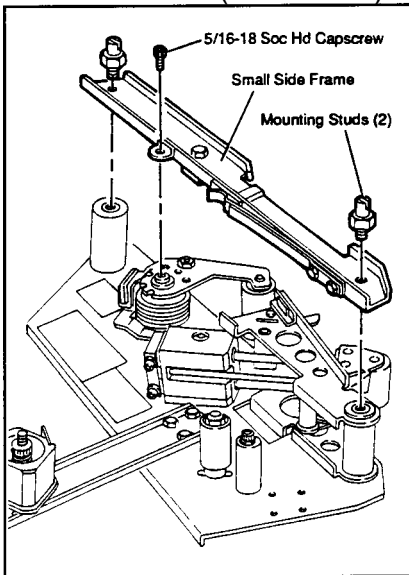

Figure 9
2. Remove the mounting studs on the front and rear of the taping head. Also remove the 5/16-18 socket head capscrew that holds the buffing arm. Remove the small side frame from taping head. See Figure 9.